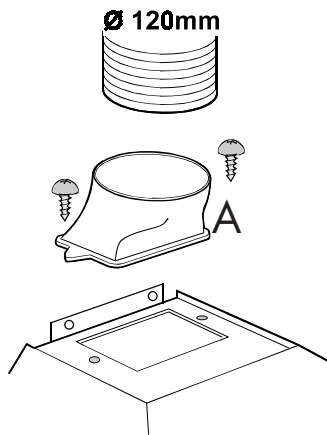

Fig. 1
- The air is forced out through a hose fitted to the top of the hood A. Fig. 1.
- Fit the connection ring above the hood with two screws then fit an exhausting pipe long enough to reach the outside. Fig. 1.